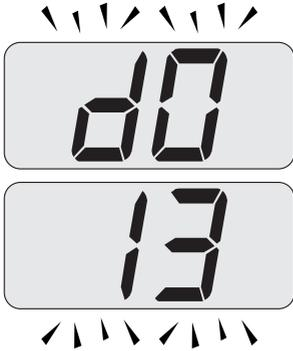

Fig. 2.2
In order to activate, press keys 14 and 16 together to access the "INFO" menu. The display displays the value "d0" that alternates with the pressure value "13" (1,3 bar). The number indicating the pressure, is displayed without decimal points while the letter indicates the unit of measure (bar) Fig. 2.2.
If the pressure reading on the pressure gauge is below that shown in Fig. 2.2, then the system will require topping up. A filling
- Open the valves of the filling loop and watch the display until it reaches normal filling pressure as shown in Fig. 2.2.